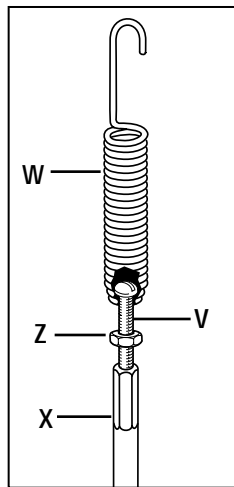
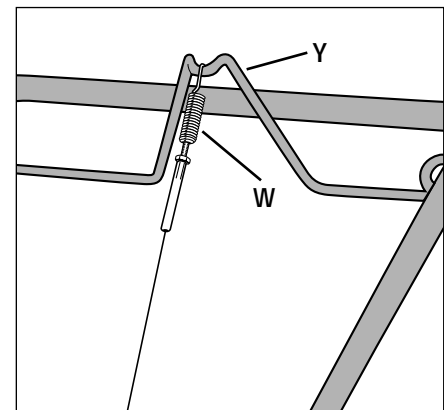

Fig. 2-5: Assemble spring and adjuster.
Fig. 2-6: Install forward clutch cable.
1	Spring, cable (see W, Fig. 2-5, page 8)
3. Insert the #10-24 x 2" slotted hd. screw (V, Fig. 2-5) down into the cable spring (W). The screw threads will extend down through the spring.
4. Thread the #10-24 hex nut (Z, Fig. 2-5) on the screw (V). Thread the hex nut about halfway up the screw.
5. Thread the screw (V) into the cable adjuster (X).
6. Hook the cable spring (W, Fig. 2-6) into the "V"-shaped bend in the forward clutch bail (Y).